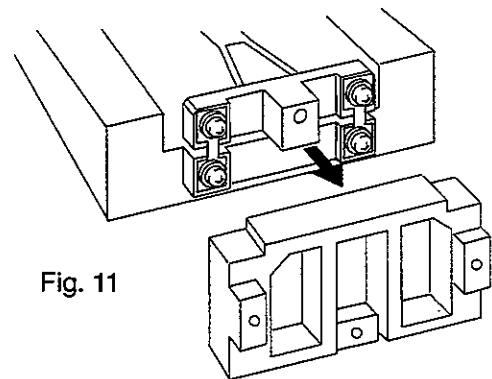

Fig. 11
- Step 7. Remove the force motor from the alignment fixture. Then remove the suspension guide from the force motor (Fig 11).